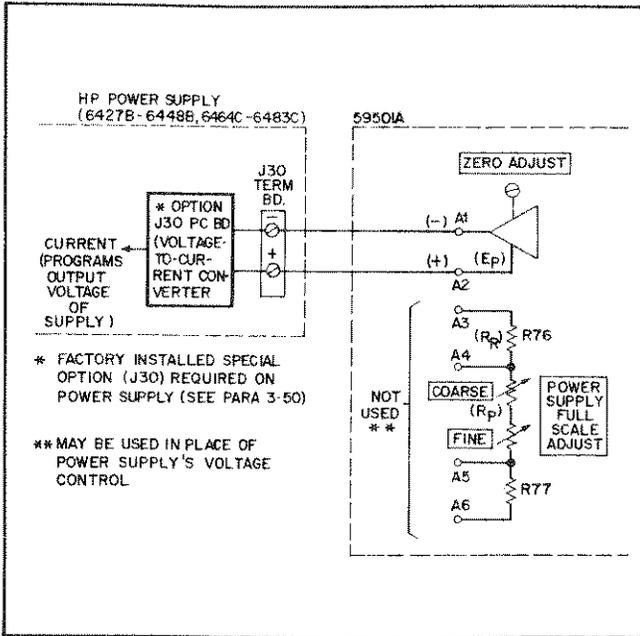

Figure 3-8. CV Programming Connections for HP Power Supply Models 6427B-6448B and 6466C-6483C
**3-50 Special Option J30.** An additional circuit, designated special Option J30, is required when CV programming models 6427B through 6448B and 6466C through 6483C. The Option J30 circuit is a voltage-to-current converter and is required because the 59501A is essentially a constant voltage source. The above supplies utilize current sources in their programming networks. The programmable 0 – 10V output of the 59501A is connected to the Option J30 input terminals (+ and –) on the rear of the supply as shown in Figure 3-8. One characteristic of the J30 converter is that if its input is open circuited, the output of the power supply will rise to about 25% of its rating. With the 59501A connected, the open circuit condition is prevented because a protection circuit in the 59501A presents a low impedance to the J30 input when ac power is removed from the 59501A (see paragraph 4-13).
for all programming voltage received from the 59501A. As indicated on Figure 3-8, the user may disable the front panel VOLTAGE controls and connect the 59501A's POWER SUPPLY FULL SCALE ADJUST in their place. Refer to the applicable power supply's Operating and Service Manual for additional connection information.